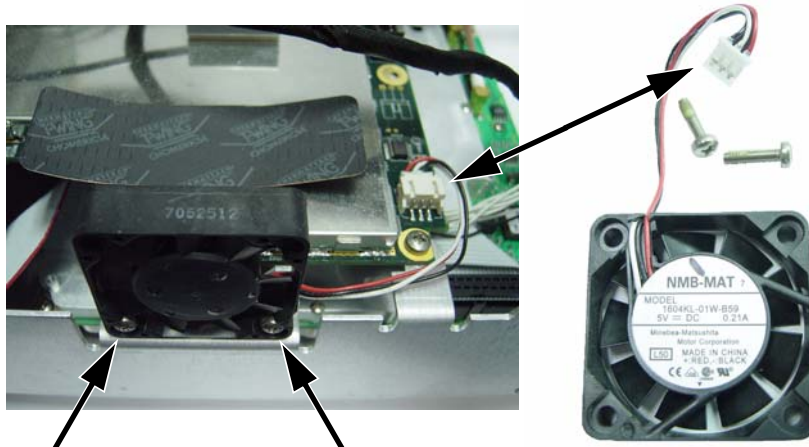

Figure 5-14. Fan Assembly, Mounted and Removed
1. With the chassis upright on a static protected work surface, disconnect the fan power plug from J1002 of the Main PCB (motherboard). Refer to the arrow of Figure 5-14.